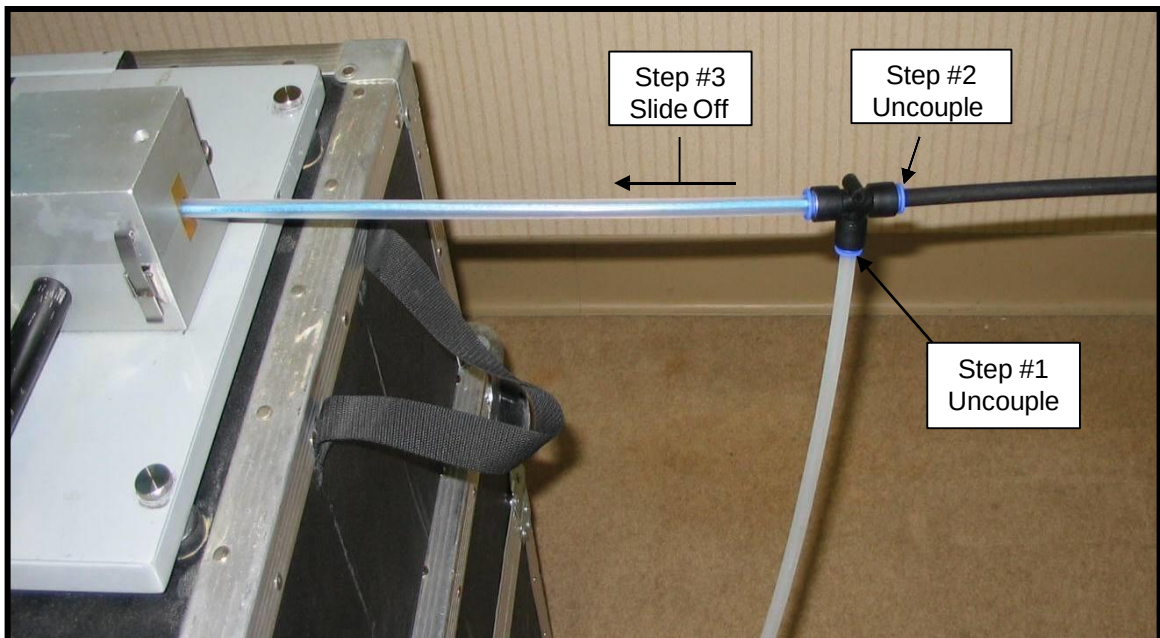

Figure 10
11.5 Carefully uncouple Gas Supply Tubing from Branch Leg of Second Tee Coupling. **See Fig. 10.**
11.6 Carefully uncouple Second Tee Coupling and 8mm Clear Tube from tube span. **See Fig. 10.**
11.7 Carefully slide Second Tee Coupling and 8mm Clear Tube off cut end of Fiber Bundle and retain. **See Fig. 10.**